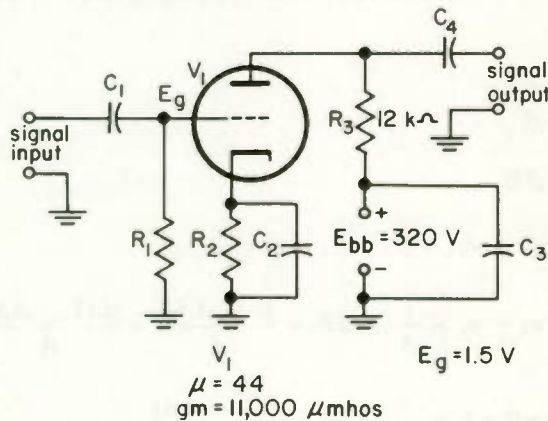

Fig. 40
2. Refer to Fig. 40. The plate resistance of V_1 is
3. Refer to Fig. 40. What value of signal current will flow through R_3 ?
- (1) 4.13 mA (2) 5.5 mA (3) 41.3 mA (4) 55 mA
4. Refer to Fig. 40. What is the voltage gain of the stage?
(1) 3.3 (2) 12 (3) 33 (4) 44
5. Refer to Fig. 40. If R_3 were changed to 16 k Ω , the voltage gain of the stage would be
- (1) g_m for a triode and μ for a pentode.
(2) μ for both a triode and a pentode.
(3) r_p for a triode and g_m for a pentode.
(4) μ for a triode and g_m for a pentode.
7. Refer to Fig. 40. If the voltage gain suddenly decreased, with no increase in distortion, one cause might be